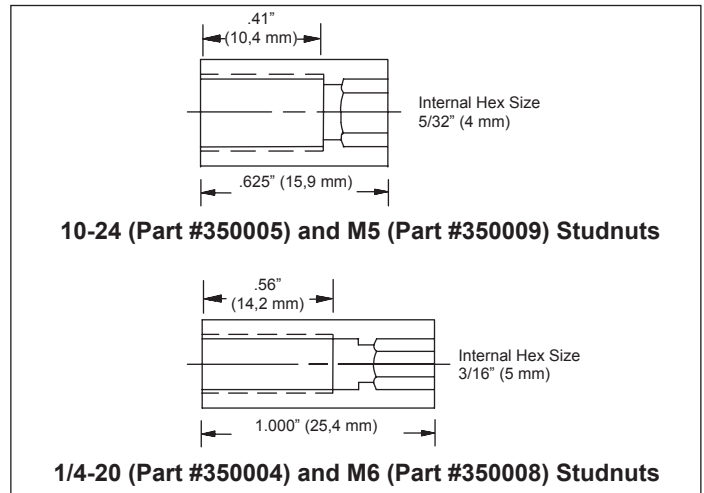

Figure 4. Studnuts
- Mechanical stop between the internal hex and the thread to prevent the hex wrench from being pushed out of its socket. See Figure 4.